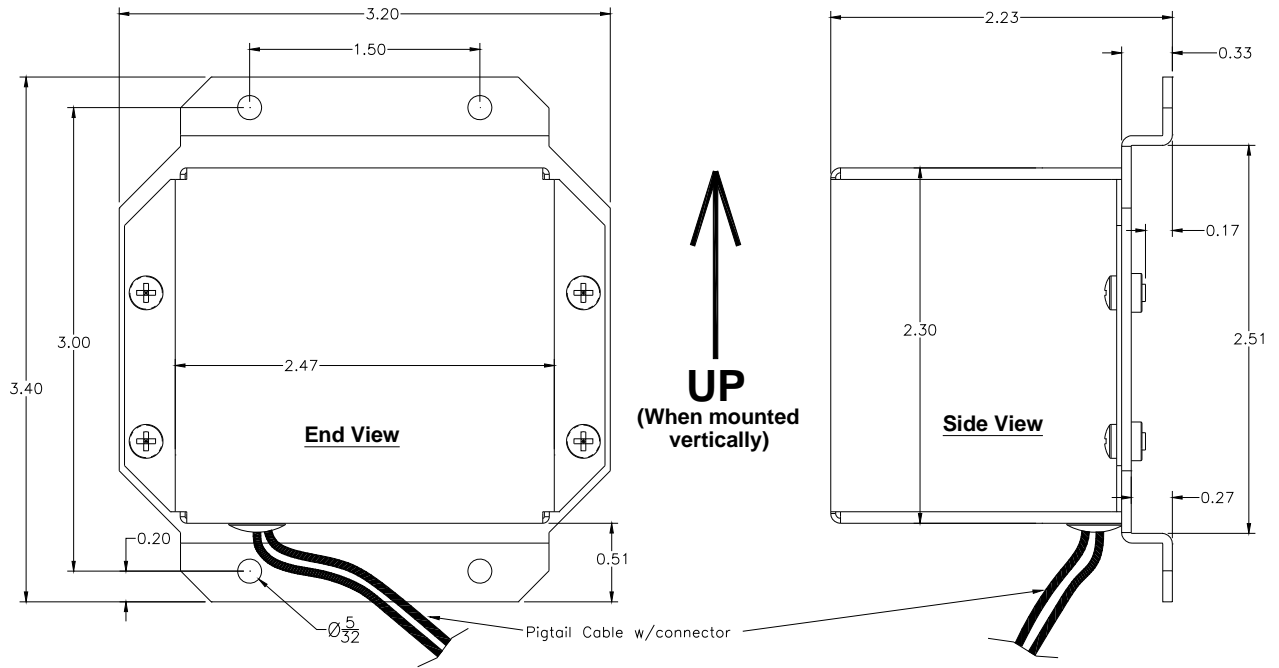

Figure 2.7: Remote Mount Standby Battery Option, using 9015671 Kit
- 3. Mount the standby battery in a protected location inside the aircraft using 9015671 kit, oriented at any angle from horizontal to vertical. If mounted vertically, cable side must be down as shown in Figure 2.7.